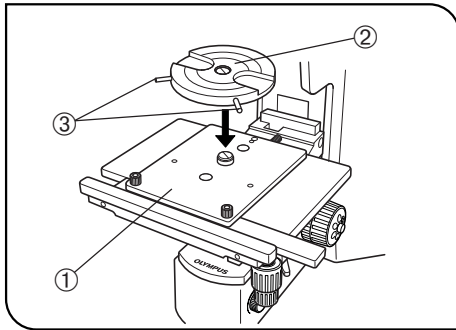

Fig. 8
**Observation with the U-WHP2 Wafer Holder Plate (Fig. 8)**
1. Place the BH2-WHR43 rotary wafer holder (for 3- or 4-inch) ② on the U-WHP2 wafer holder plate ①.
2. Place a 3-inch or 4-inch wafer on the BH2-WHR43 and observe the wafer. The wafer holder plate can be rotated with the knob ③.